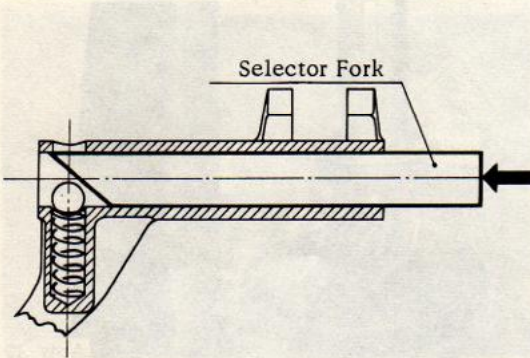

Abb. 37
26. Fit reverse gear selector fork with spring and ball. Insert chamfered drift so that spring and ball are forced downwards (Fig.37).